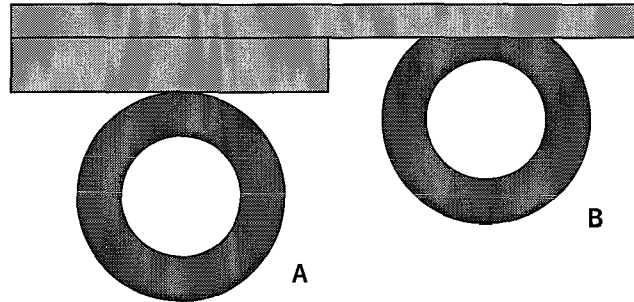

Figure 2.5: Way to find the height of the tyre and hub (yoke)
- lowest load at position A (figure 2.5): read the value of the ruler (figure 2.7 nr3)
- highest load at position B (figure 2.5): read the value of the ruler (figure 2.7 nr3)